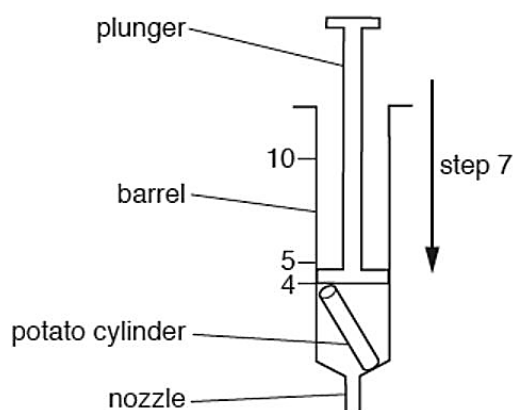

Fig. 1.2
- 7 Replace the plunger and push it to the 4 cm³ mark, as shown in Fig. 1.2.